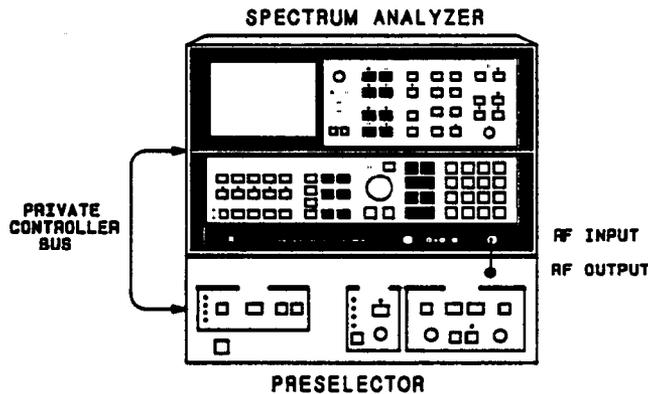

Figure 4. Residual Responses Test Setup
1. Connect equipment as shown in Figure 4.